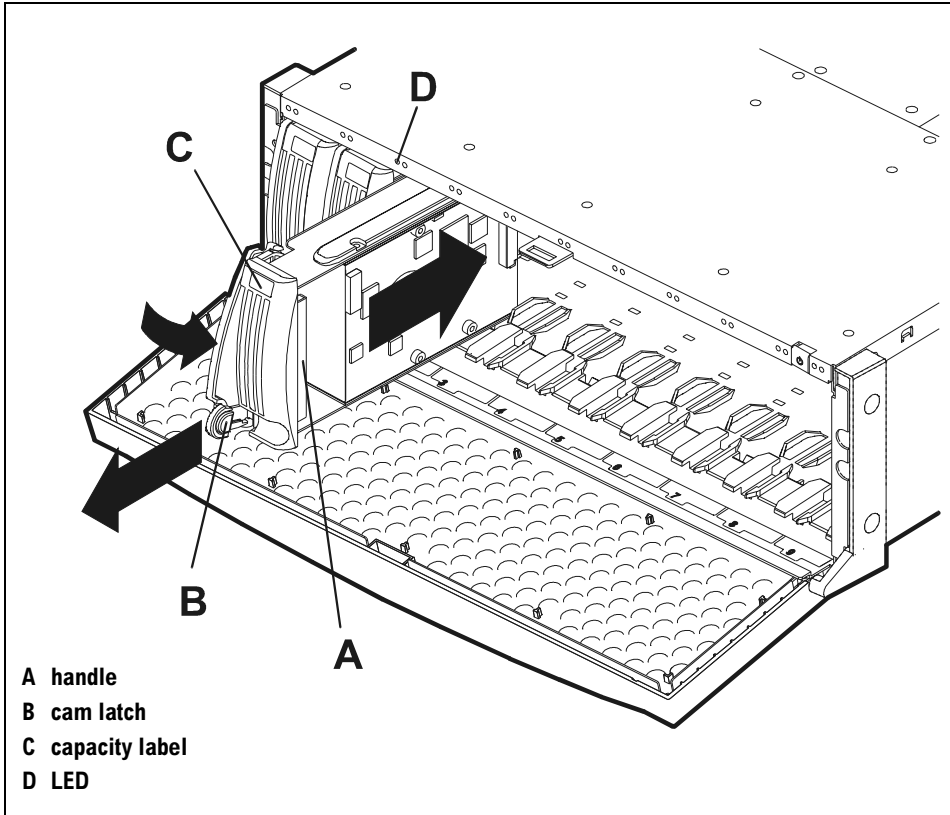

Figure 41 Disk Installation
5. Remove the replacement disk from its ESD bag, being careful to grasp the disk by its handle (A in Figure 41). (Fillers are not in ESD bags.)
6. Pull the cam latch (B) away from the disk.